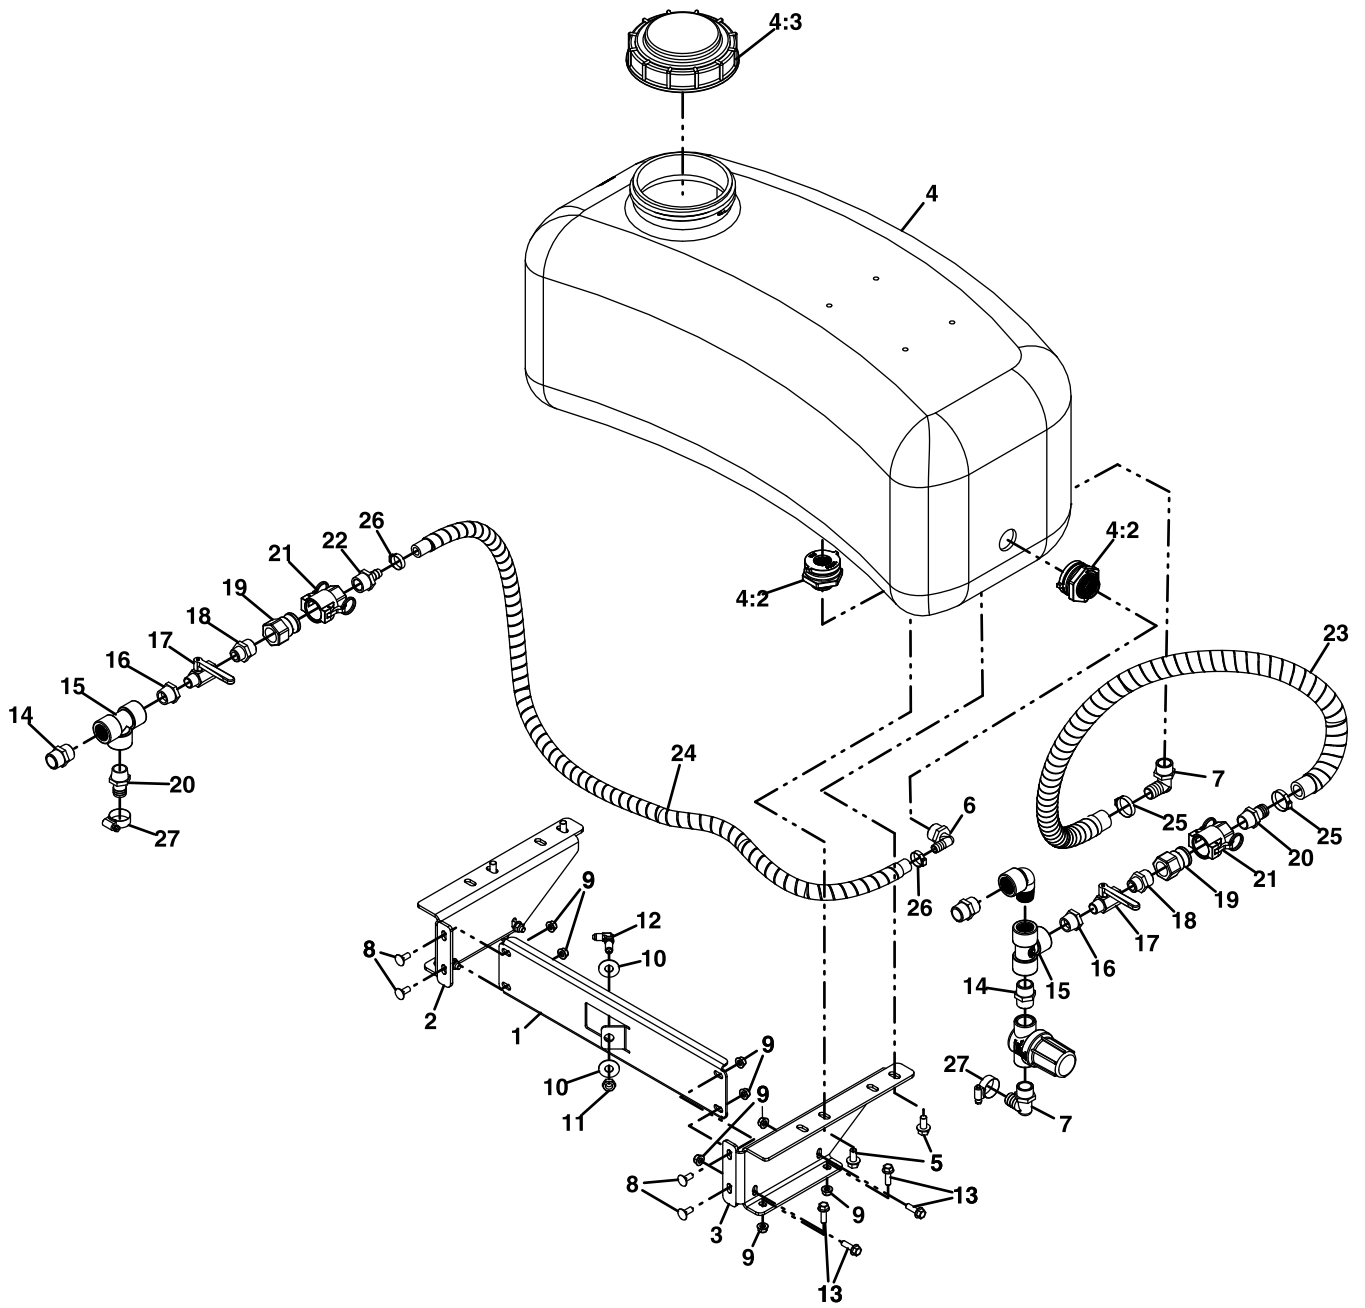

Figure 9
- Using eight 5/16-18 x 1 inch screws and 5/16-18 flanged nyloc nuts, install the auxiliary tank frame assembly onto the machine (reference Figure 9).